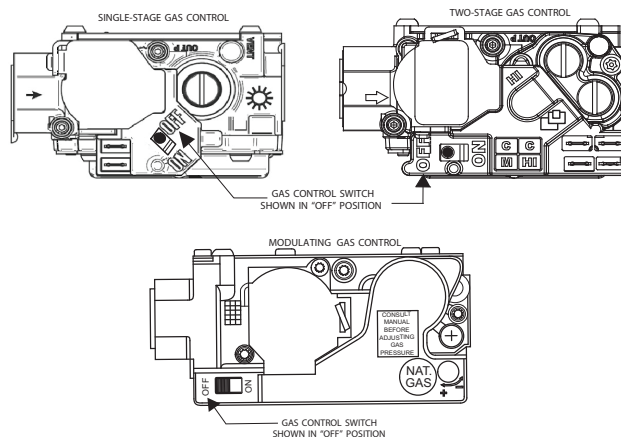

Fig. 19 - Control Switch to OFF
5. Turn control switch on the gas control to OFF position. See Fig. 19.